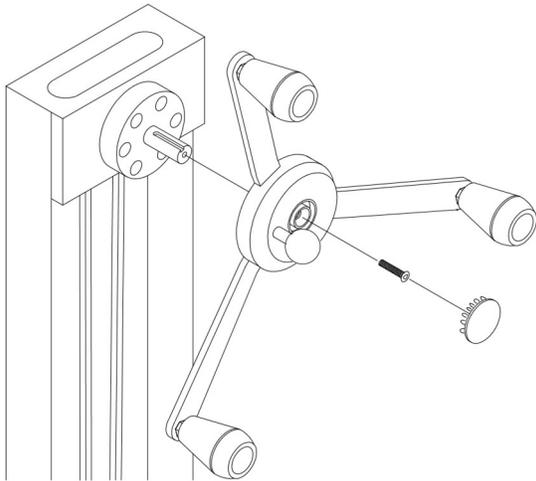

Figure 17:
- Attach Tri-Star crank handle (Fig. 17): Put key into key-way of shaft and push handle hub on. Use a 3/16" Allan key to install the screw from the end. Press round stainless steel cover into the recess to cover the screw head.